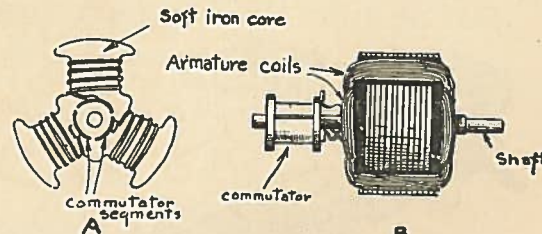

Fig. 10
The part of a motor that rotates is called the armature. It is formed by four distinct parts, and these are (1) the shaft; (2) the core, which is built up of 12 plates, or laminations of soft iron; (3) the windings, or coils of insulated wire wound on the pole pieces of the core; and (4) the commutator, which is formed of three brass segments insulated from each other by means of hard fiber checks. The coils are connected to the segments of the commutator, as shown at A in Fig. 10, and the armature complete is shown at B.